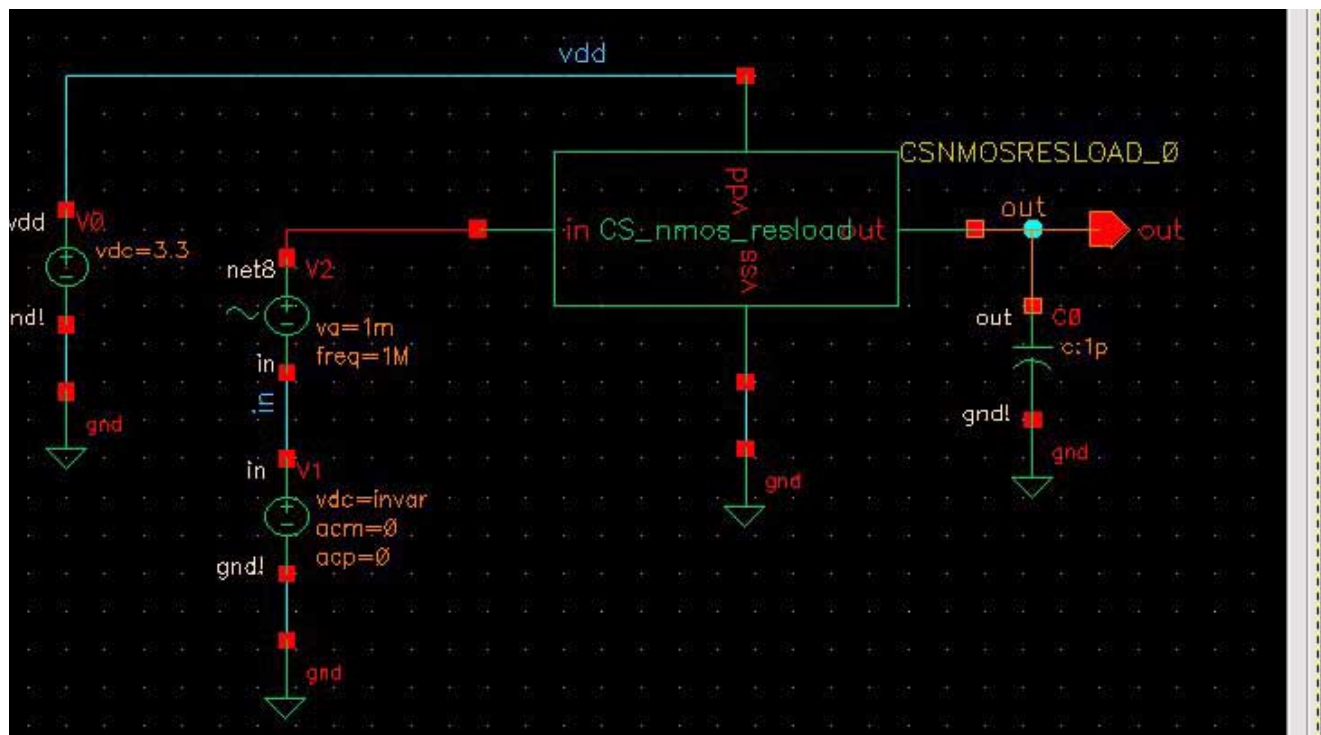

Figure 19: test_CS_nmos_resload with vsin source inserted.
- [1] *Instantiate a vsin element from the analogLib library and place it in series with the dc input voltage source (see Figure 19)*